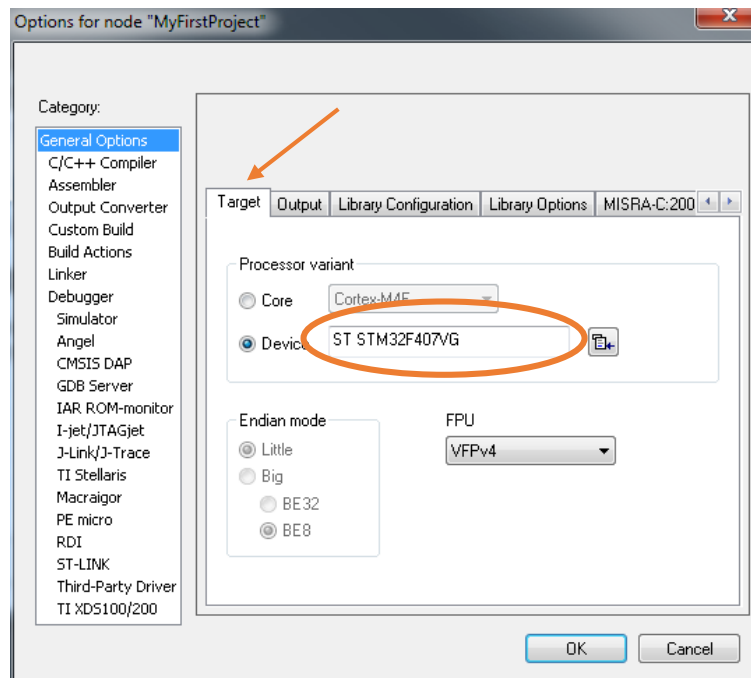

Figure 3.8: Select the microcontroller
- The IAR Embedded Workbench needs to know the microcontroller to compile for. Under “General Options” click “Device” and select the appropriate ST microcontroller (STM32F407VG) as shown in Fig. 3.8.